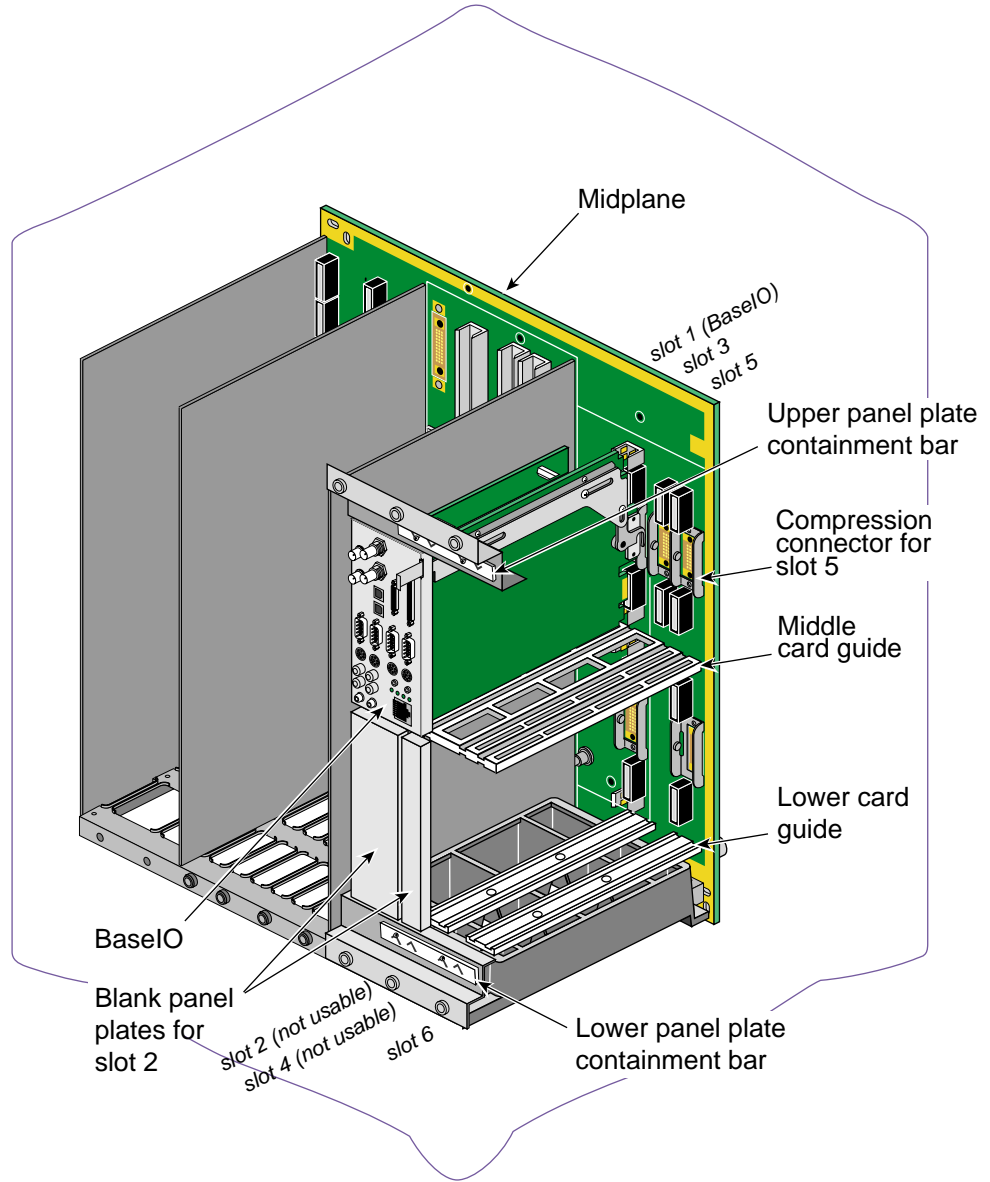

Figure 3 I/O Items in the Onyx2 Deskside Server
- Figure 3** I/O Items in the Onyx2 Deskside Server 8
Each Onyx2 node board accommodates a maximum of 3 TPU cards. The Onyx2 deskside system has 6 XIO slots. Slots 3, 5, and 6 (shown in Figure 3) are available for TPU XIO boards. It is recommended that you fill available odd-numbered slots before filling even-numbered ones, and that you fill lower-numbered slots before higher-numbered ones. For example, fill slot 3 before filling either slot 5 or slot 6.